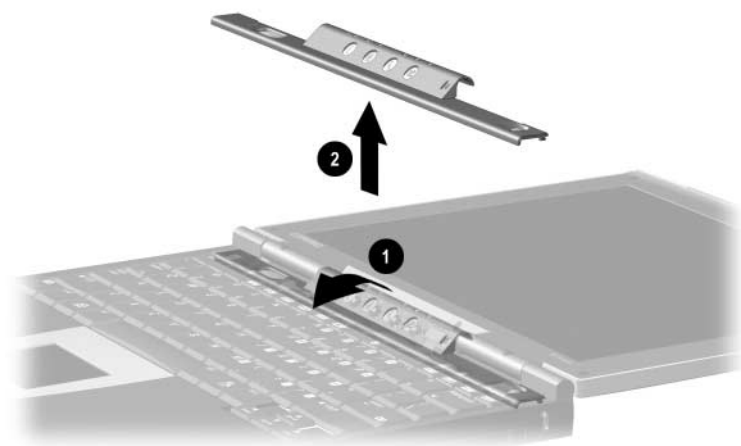

Figure 5-5. Removing the LED Cover
4. Swing the back edge of the LED cover up and forward ❶ and remove it ❷ (Figure 5-5).